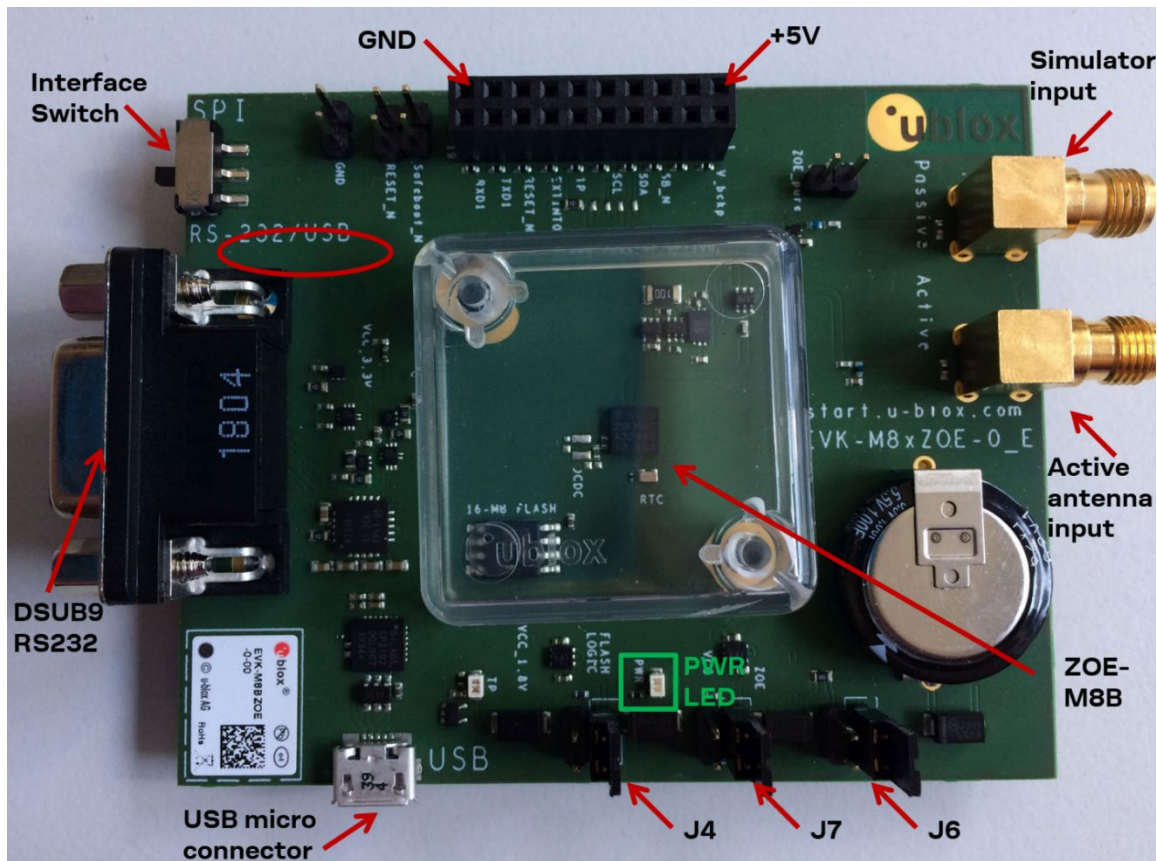

Figure 1: Getting started overview
This section describes the evaluation board connectors and configuration settings that are required to get started. Figure 1 shows an overview of EVK-M8BZOE board and its connectors.
- The green LED (“PWR LED” in Figure 1) is turned on when power supply is connected.
The EVK-M8BZOE board must be supplied either by the micro USB connector or by an external 4.5 V – 5.5 V power supply connected to digital connector pin 2 and GND to pin 18, see Figure 1.
The Interface Switch has to be set according if either the UART (RS232/USB) and DDC (I2C) or the SPI interface is used. See Figure 1 for location of interface switch.